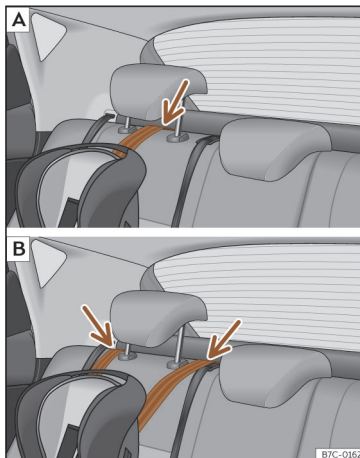

Fig. 27 Rear seats: adjustment and assembly according to the Top Tether belt. »
- Place the belt under the head restraint of the back seat»» **Fig. 27** (depending on the instructions of the chair itself, lift or remove the head restraint if necessary).